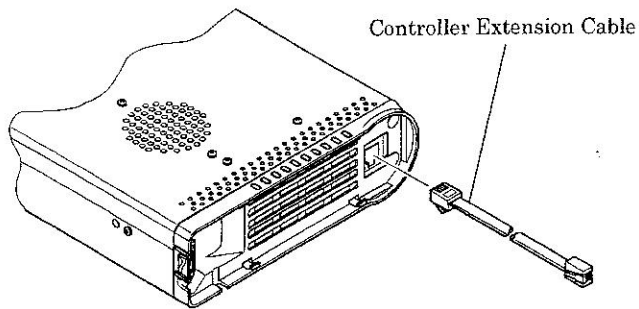

Figure 2
4. Referring to Figure 2, insert the plug of the Controller Extension Cable into the corresponding jack on the **FT-857**.